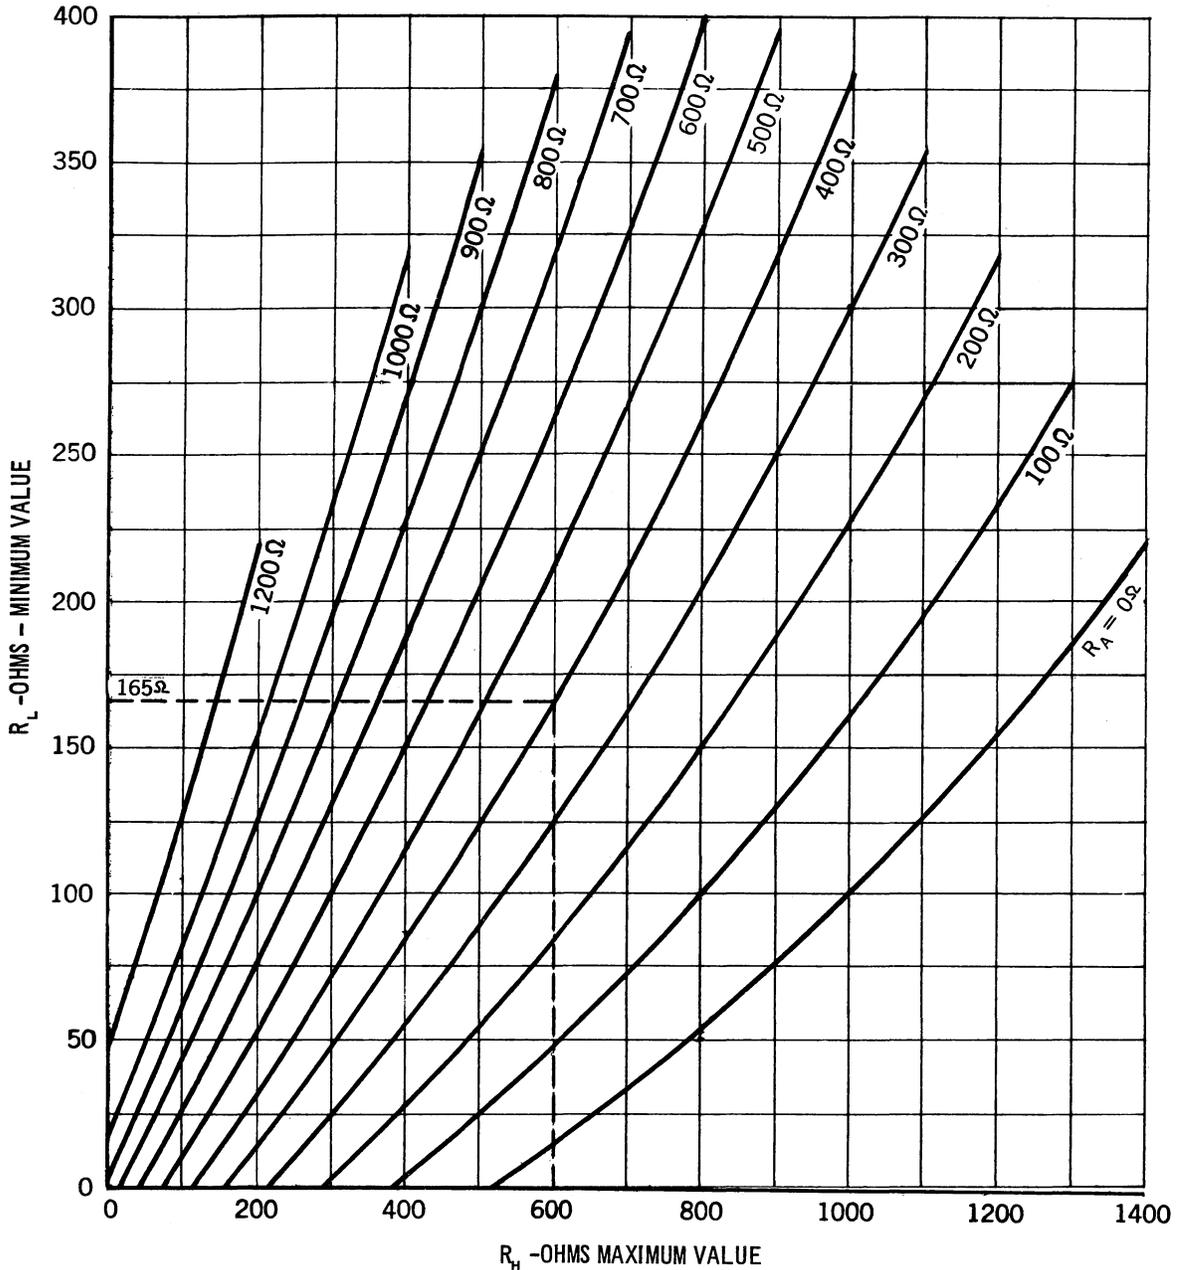

Fig. 5 - Chart for Determining Minimum Line Current for Revertive Calls
- (1) Minimum line current of 12 ma.
- (2) Maximum of three 1574s in series DC talking path to control DC resistance as well as transmission loss.
- (3) Maximum of three lines with 1574s bridged across any working line. This means that a maximum of four lines may be bridged in the central office as long as there are no field bridges.
- (4) Minimum line current for revertive calls of 12 ma in each branch. Fig. 5 will be of assistance in computing this value.